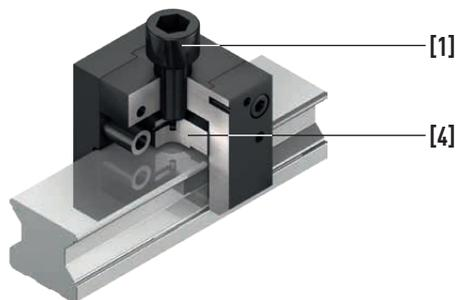

Fig. 5.20 Pressing in the cover cap by tightening the screw
- ▶ Move the press-in piston [4] (see Fig. 5.20) of the assembly tool [2] into the upper end position by loosening the screw [1].
- ▶ Position the press-in piston [4] (see Fig. 5.20) centred over the bolt cap [3].